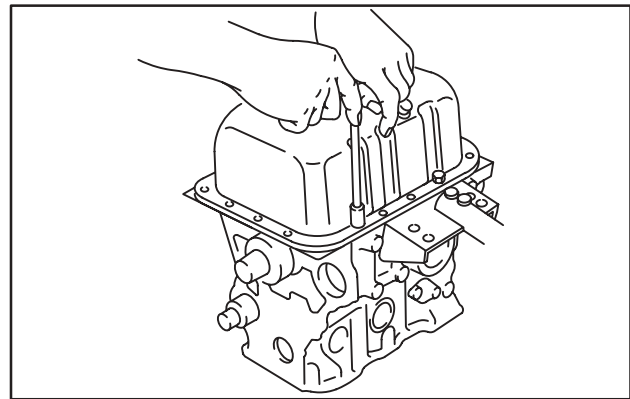

Fig. 1 – Removing Oil Pan
1. Remove oil pan screws and nuts. Remove oil pan and discard gasket Fig. 1.